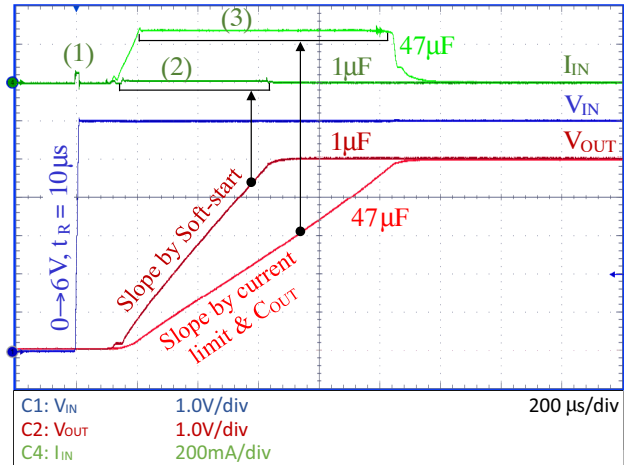

Figure 61.
Now back to LDO application. Here we can see two different inrush current spikes. The first one is caused by the LDO's input capacitor ( $C_{IN}$ ) charging from zero to the input voltage level. It happens when the previous power block (for example DC/DC) starts providing the input voltage to the LDO circuit. The maximum level of this inrush current is given by Equation 16. It doesn't matter if LDO is enabled or disabled as this inrush current spike is related only to  $C_{IN}$  and it can't be suppressed by the LDO, it is matter of previous power block. This inrush current spike is shown at Figure 61, point (1).